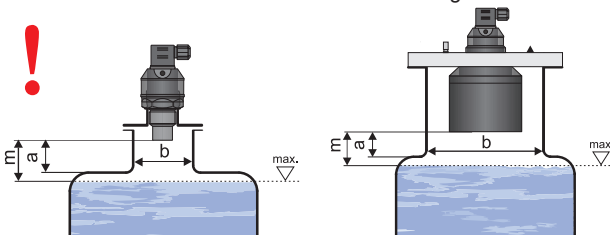

Fig. 5: Installation of the device in the installation neck
- Only if the maximum level in the tank gets into the dead zone, the device shall be mounted into a higher **installation neck**. The tank can be then filled nearly up to the maximum volume. The neck's inner surface shall be even and smooth (without edges and welded joints), the inner edge should be rounded in the spot where the ultrasonic wave leaves the pipe. Choose the largest possible neck diameter, but keep the neck height as low as possible. The recommended dimensions of the inlet neck are listed in Fig. 5.